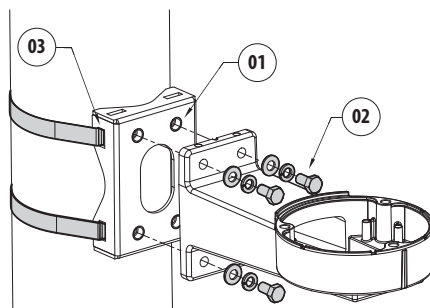
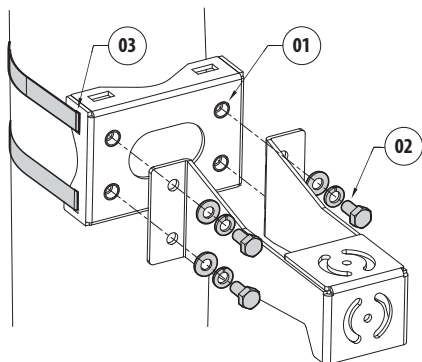

Fig. 2 Fastening for UEBW (ULISSE EVO)
Fig. 3 Fastening for NVX, NTX
Based on the product you want to install, the clips should be applied using the specific compartments (03) (Fig. 2 Fastening for UEBW (ULISSE EVO), page 2 and Fig. 3 Fastening for NVX, NTX, page 3).